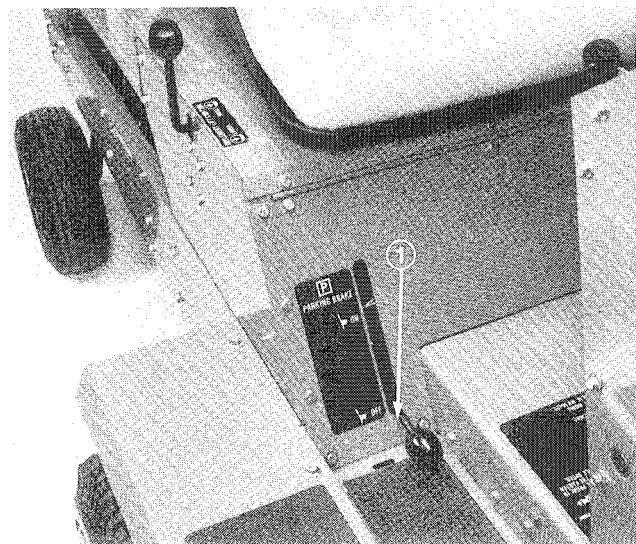

Figure 10
**Parking Brake (Fig. 10)** – Whenever the engine is shut off, the parking brake must be engaged to prevent accidental movement of the machine. To engage the parking brake, pull up on lever. Parking brake is equipped with an interlock, which shuts off engine when PTO switch or traction pedal are engaged with brake on.